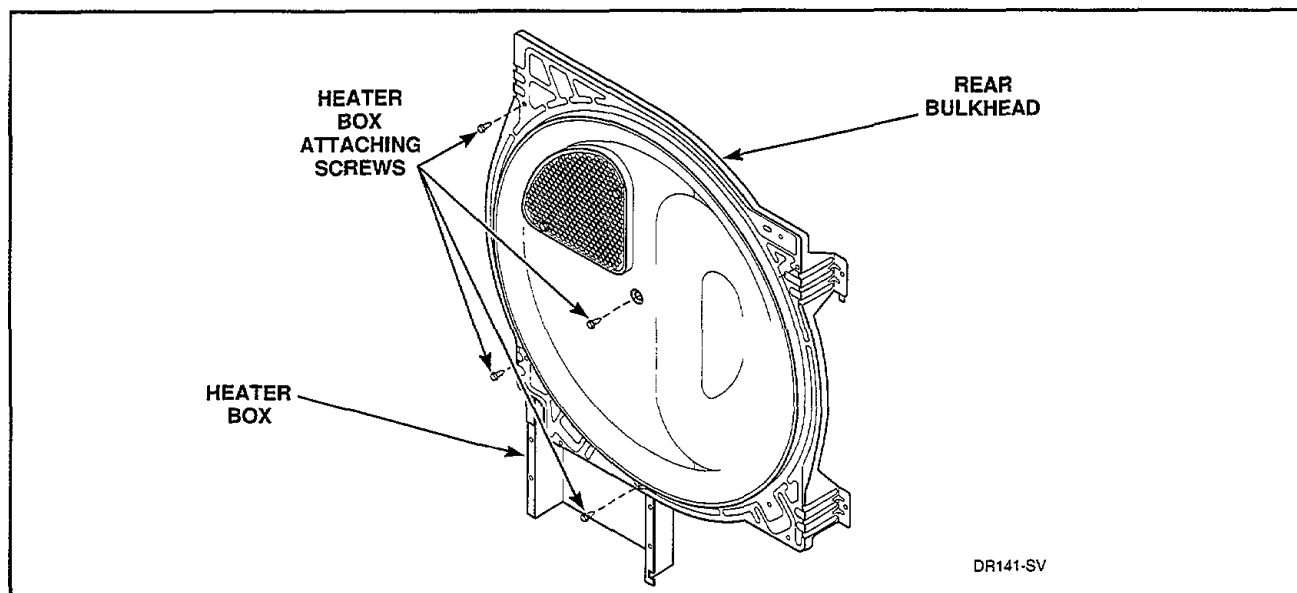

Figure 38
- n. To remove heater box from rear bulkhead, refer to *Figure 38*.